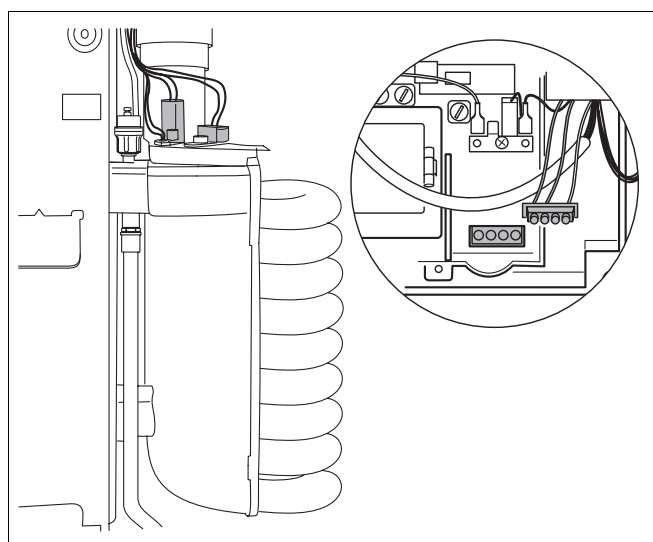

Fig. 78 Checking the hot surface ignitor
- Unplug and remove hot surface ignitor from UBA housing (fig. 78).